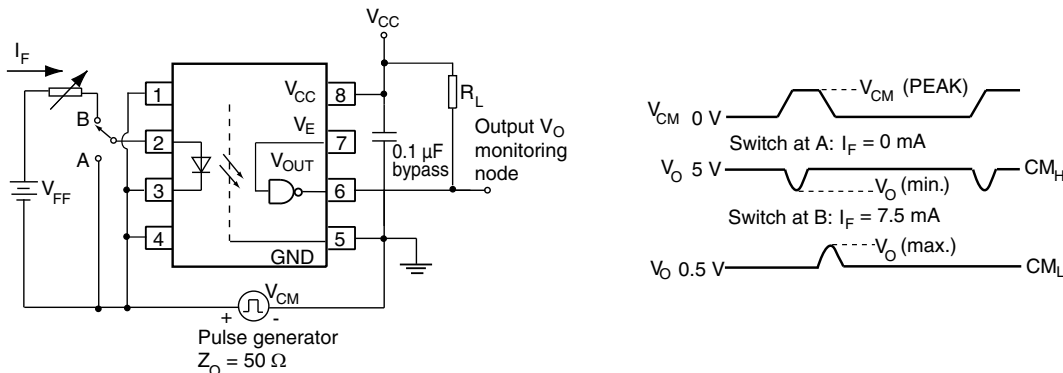

Fig. 4 - VOW137 Test Circuit for Common Mode Transient Immunity
- (2) Over recommended temperature ($T_{amb} = -40 \text{ }^\circ\text{C}$ to $+100 \text{ }^\circ\text{C}$), $V_{CC} = 5 \text{ V}$, $I_F = 7.5 \text{ mA}$ unless otherwise specified. All typicals at $T_{amb} = 25 \text{ }^\circ\text{C}$, $V_{CC} = 5 \text{ V}$.
- (3) Minimum and maximum values are testing requirements. Typical values are characteristics of the device and are the result of engineering evaluation. Typical values are for information only and are not part of the testing requirements.
- (4) With pulling V_E to logic high state will improve the CMR performance.
- (5) VOW137 CMTI test circuit refer to Fig. 4